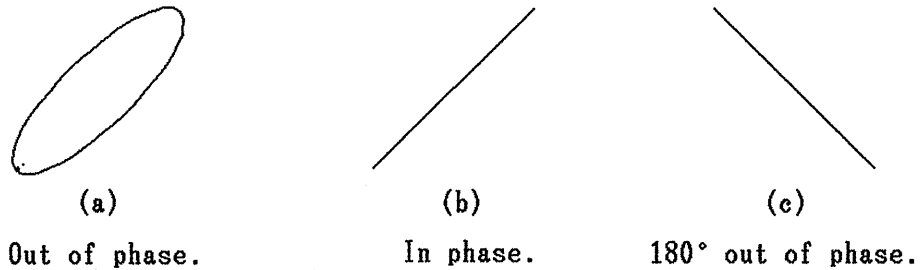

Figure 4-1
- 2) Press the ③ **YES**, ⑪ **SET** (MONO) keys to set output level 3.00Vp-p (internal modulation generator 1kHz, monophonic modulation level 100%).
- 3) Press the ③ **YES**, ⑪ **100%** (MAIN) keys to set stereo modulation level 90% ⑩ pilot level 10%.
- 4) If the internal modulation generator is not at 1kHz, press the ⑫ **1kHz** key.
- 5) Press the ⑪ MODULATION FUNCTION **ON** key to turn it off and set modulation level 0%, pilot level 10%. If oscilloscope input sensitivity is set to X INPUT 200mV/DIV, Y INPUT 50mV/DIV, waveforms similar to the ones shown in Figure 4-1 appear on the oscilloscope, so rotate the ⑥ SCOPE PHASE semifixed adjuster, adjusting so a waveform like Figure 4-1 (b) is formed.